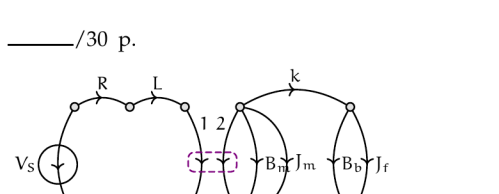

Figure exe.2: a linear graph model of the electromechanical system.
Consider the linear graph model of a motor coupled to a rotational mechanical system shown in Fig. exe.2. This is similar to the model from the Lec. emech.real, but includes the flexibility of the shaft coupler. An ideal voltage source drives the motor—modeled as an ideal transducer with armature resistance R and inductance L , given by the manufacturer in Table real.1. The ideal transducer's rotational mechanical side (2) is connected to a moment of inertia J_m modeling the rotor inertia and damping B_m modeling the internal motor damping, both values given in the motor specifications. Take $b_2 = B_m$ and $J_1 = 0.324 \cdot 10^{-3} \text{ kg}\cdot\text{m}^2$. Assume the shaft coupling has a torsional stiffness of $k = 100 \text{ N}\cdot\text{m}/\text{rad}$.